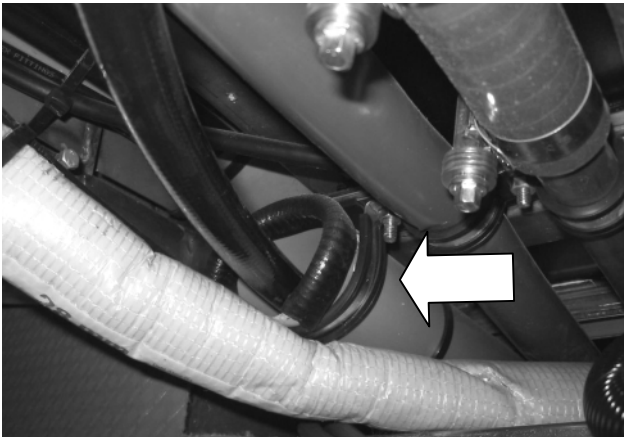

Figure 11: Spare line duct at the front of the coach with new central tunnel line installed
- 2) Run the new hose through the spare line duct above the fuel tank at the front (see Figure 11).